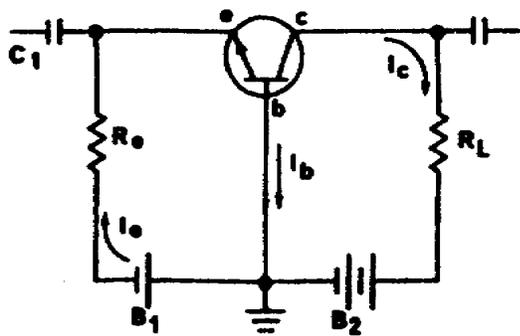

Figure 122. Common base amplifier.
6. **Transistor Amplifiers.** Let's put a signal voltage into the circuit of figure 122 and trace the electron flow. A coupling capacitor (C_1) is used to couple the signal into the emitter-base circuit. R_e provides the right amount of forward bias. When the signal voltage rises in a positive direction, the emitter will be made less negative with respect to the base. This difference will result in a reduction of the forward bias on the emitter-base circuit and, therefore, a reduction in current flow through the emitter. Since the emitter current is reduced, the collector current will likewise be reduced at the same proportion. As the signal voltage starts increasing in a negative direction, the emitter will now become more negative with respect to the base, resulting in increased forward bias. Increased forward bias